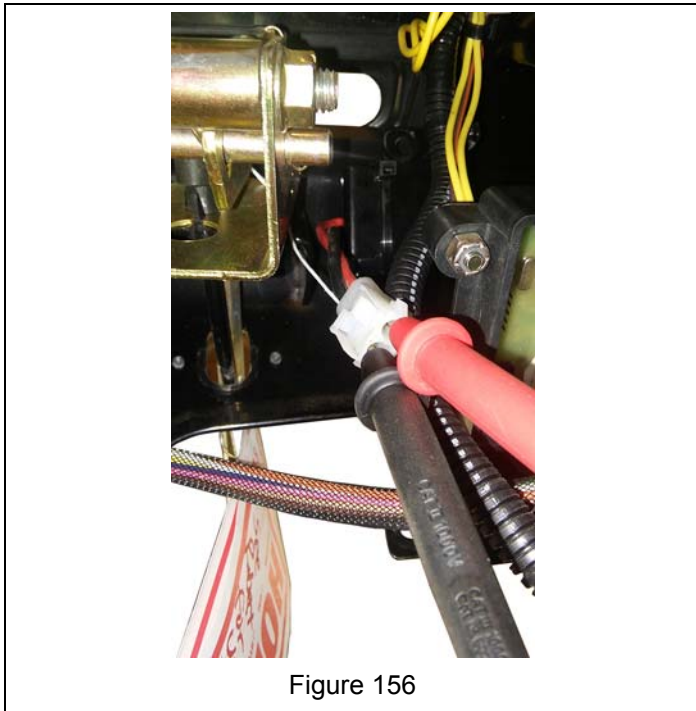

Figure 156
- a. Check the battery. With the engine off, the battery voltage should be 7.2 V DC – 8.4 V DC. See Figure 156.
If DC output is higher than 8.4 V DC, replace ECU. See Figure 156.